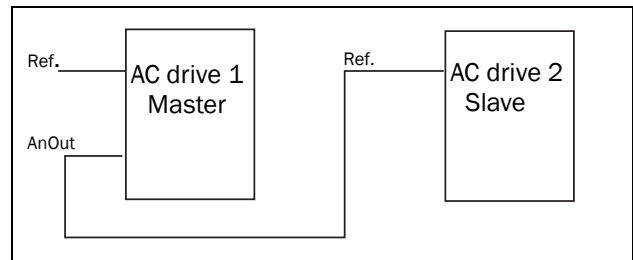

Fig. 84
- a reference signal for the next AC drive in a Master/Slave configuration (see Fig. 84).